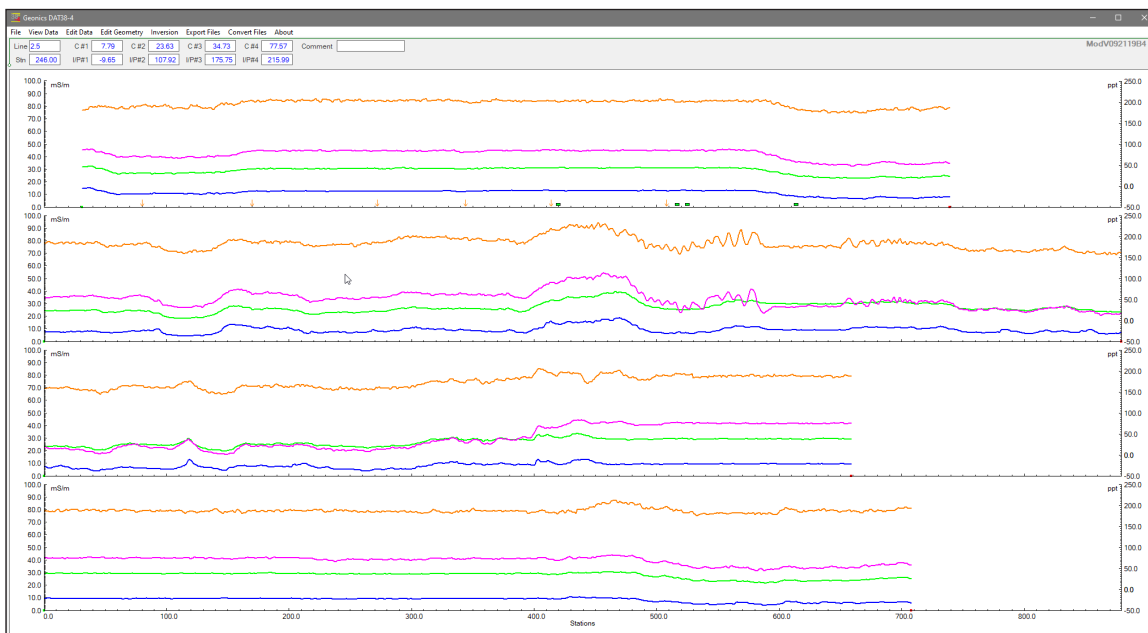

Figure 3.3 DAT38-4 screen with stacked profiles
- **Display:** Once loaded, data appears as stacked profiles (Figure 3.3). Each survey line is shown in a separate panel—even if lines share the same name.